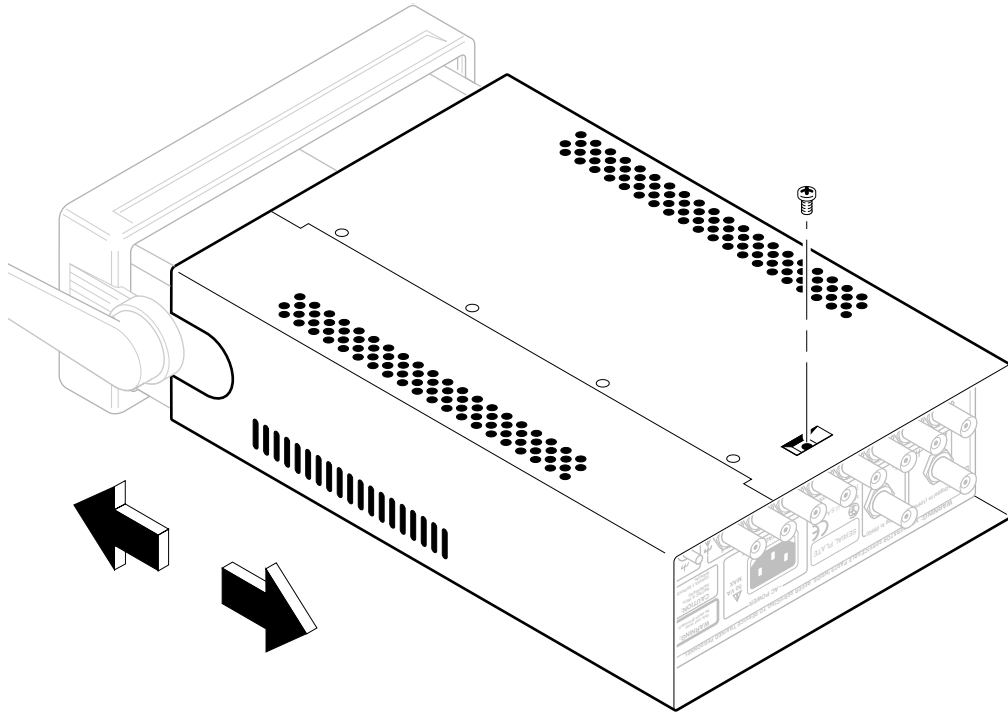

Figure 2-2. Bottom View for Cover Removal (59552A)
- 3 Remove the screw located at the bottom near the rear of the cover as shown in Figure 2-2.